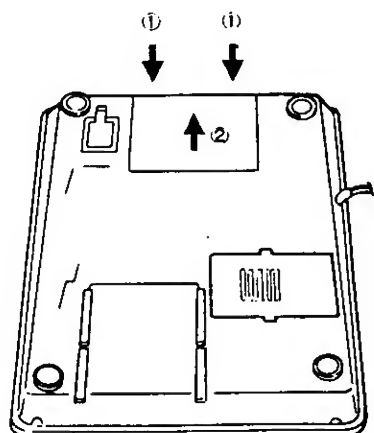

Figure 200-55 ADA-Z Unit Installation
- c. Locate the access panel at the top of the keyset. Press in slightly on the rear surface, then lift up. (See Figure 200-55).